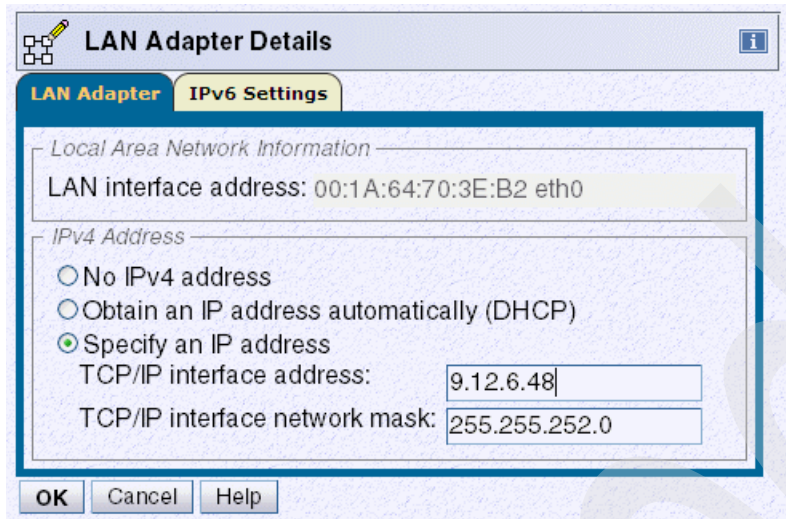

Figure 2-27 LAN Adapter Details
7. Click **Details** to open the LAN Adapter Details panel (Figure 2-27).